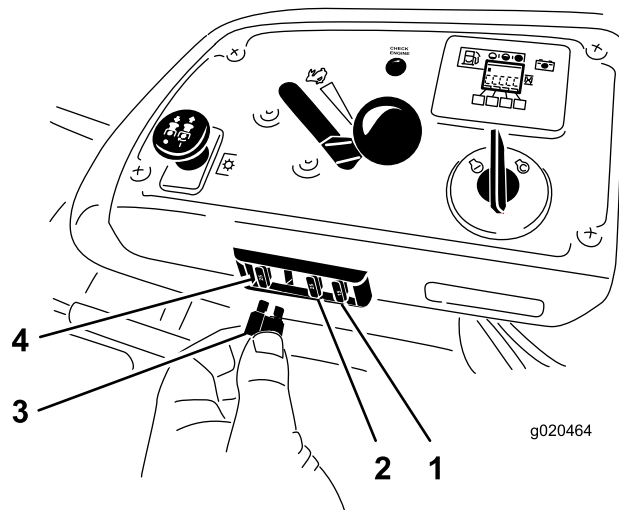

Figure 61
The fuses are located on the right console next to the seat (Figure 61).
2. Install a new fuse (Figure 61).